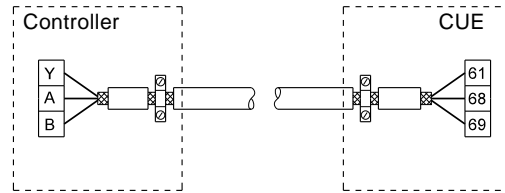
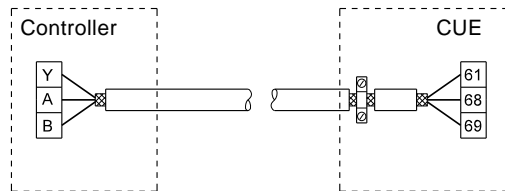

Fig. 28 Example of connection of a 3-conductor bus cable with screen connected at both ends
Fig. 29 Example of connection of a 3-conductor bus cable with screen connected at the CUE (controller with no cable clamps)
- Connect the screen to ground at both ends for both motor and signal cables. See fig. 28. If the controller has no cable clamps, connect only the screen to the CUE. See fig. 29.